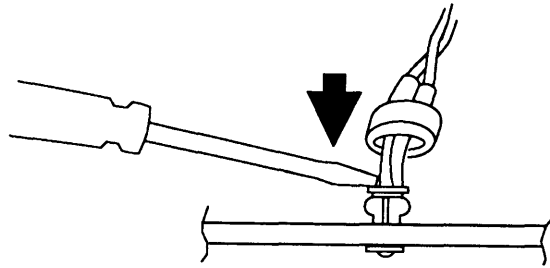

FIGURE 35
1. If necessary, slip the LED into its holder and snap it into place with a jeweler's screwdriver (Figure 35).